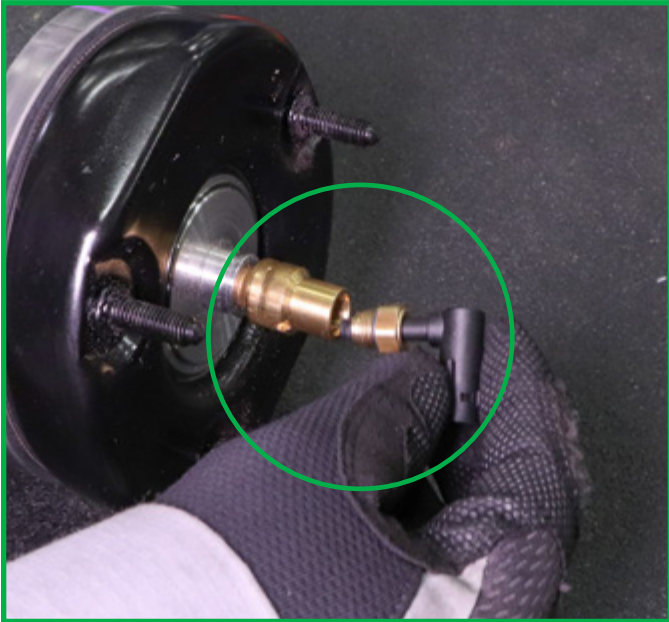

FIGURE 23
1. Install the air fitting from the provided accessory kit on to the air strut and snug tight with a wrench. (Figures 23, 24)